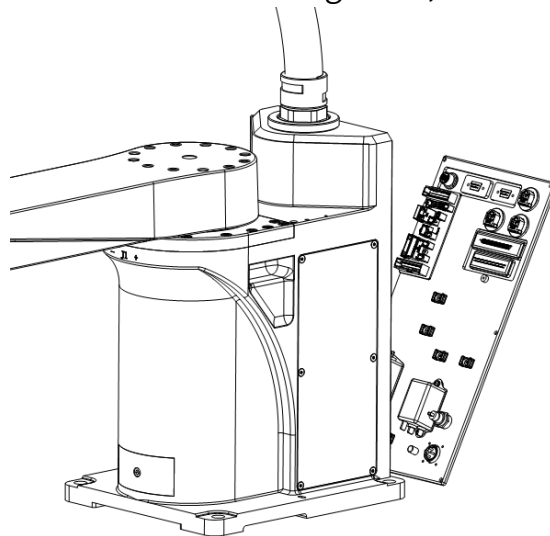

Figure 4-12 Open the interface panel
Step 2 Gently take the interface panel out by holding its upper end. Be careful not to break off the cables when taking it out, as shown in Figure 4-12.